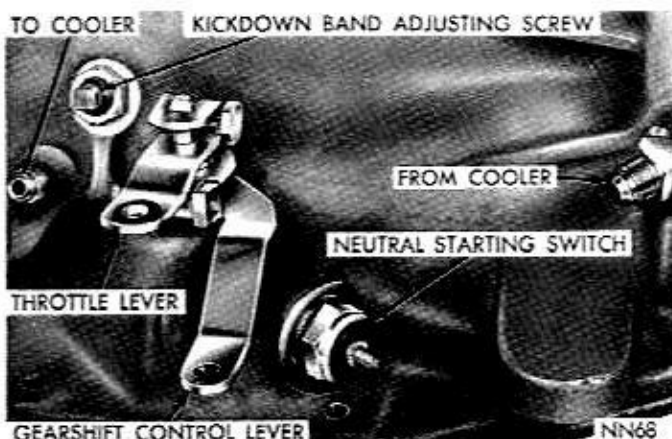

Fig. 95—External Controls and Adjustments
(1) Assemble all linkage parts leaving adjustable rod end free.
(2) Place gearshift selector lever in PARK position and lock steering column with ignition key.
(3) Move shift control lever on transmission all the way to rear (in PARK detent) (Fig. 95).
(4) Set adjustable rod to proper length and install with no load in either direction on linkage.
(5) Check Adjustment as follows: